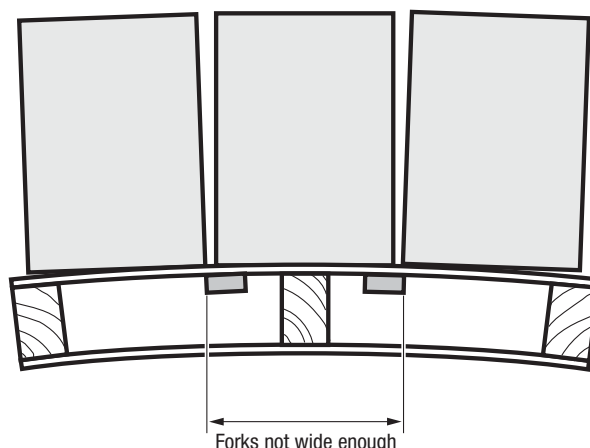

Figure 10 Optimum distance between forks should be known in relation to pallet size
- the forks should be spaced so that maximum support is given to the pallet when lifted (see Figure 10);